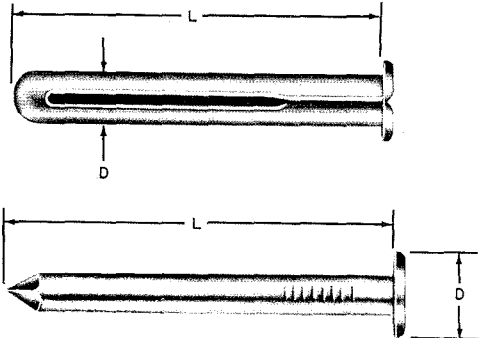

Fig. 20—B Drive Anchor
5.07 B Drive Anchor (Fig. 20): Used for making attachments to masonry. It consists of a steel or aluminum shield and a steel nail and is available in 15 sizes as shown in Table A. A predrilled hole is required corresponding to the size of the unexpanded shield.